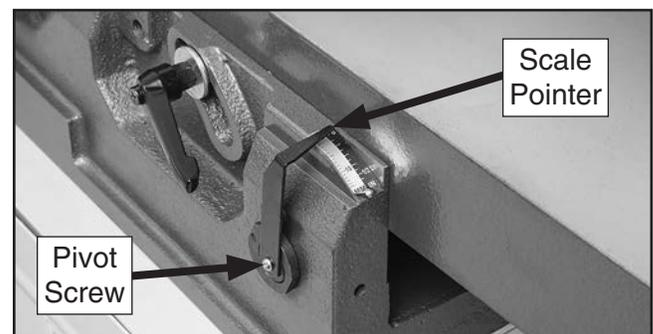

Figure 82. Depth-of-cut scale pointer adjusted to "0".
5. Using a screwdriver, loosen pivot screw, adjust scale pointer to "0" (see **Figure 82**), then re-tighten pivot screw.